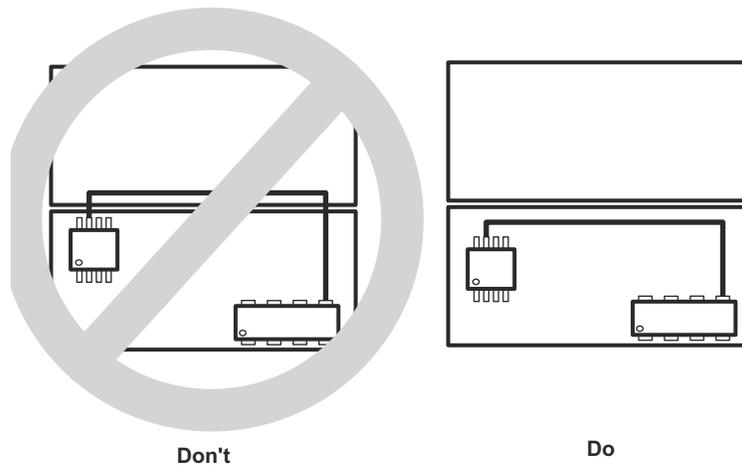

Figure 2-2. Do Not Cross Plane Boundaries
- Do not route traces so they cross from one plane to the other. This can cause a broken RF return path resulting in an EMI radiating loop as shown in Figure 2-2. This is important for higher frequency or repetitive signals. Therefore, on a multi-layer board, it is best to run all clock signals on the signal plane above a solid ground plane.